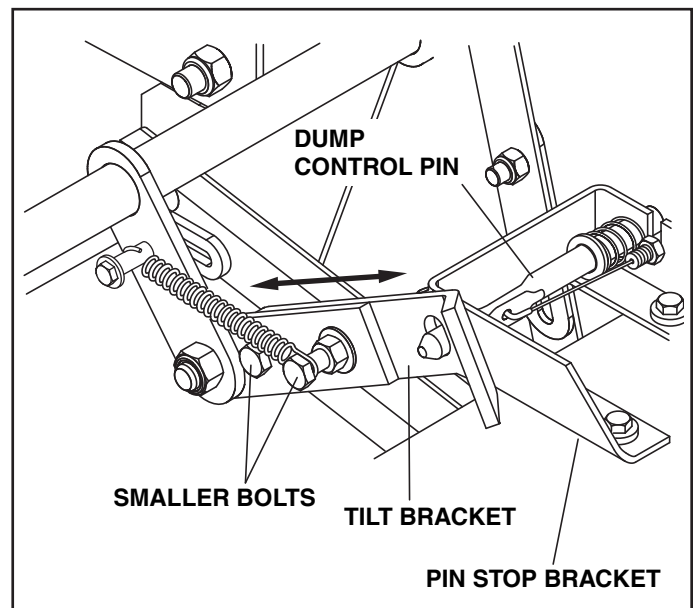

FIGURE 24
STEP 25: ADJUST TILT BRACKET AND PIN STOP BRACKET (SEE FIGURE 24)